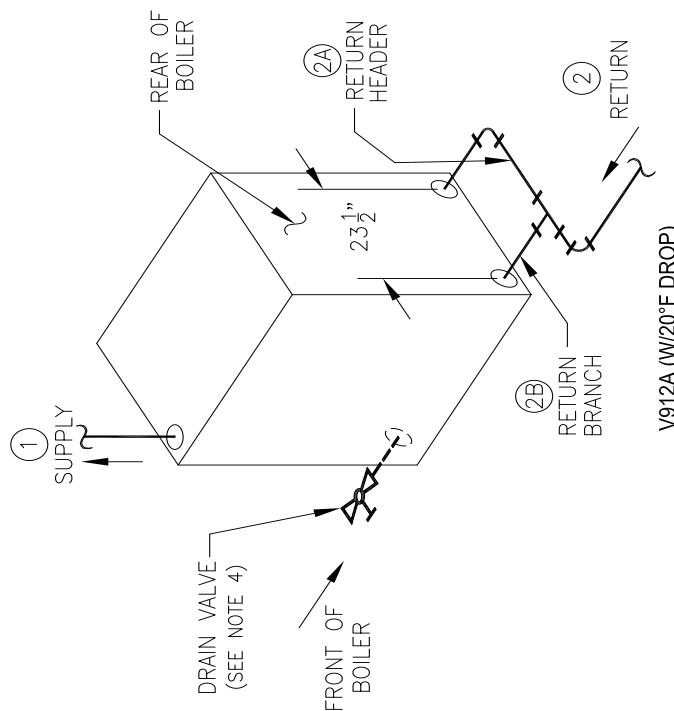

Figure 23: V9A Series Minimum Piping - Parallel - Water Boiler
- SUPPLY CONNECTIONS** - Removal of top jacket is not required to connect the supply riser(s), however one may find it easier. Refer to Figure 23 or 24 for water boilers and Figure 29 for steam boilers.
- RETURN CONNECTIONS** - The boiler is secured to the shipping skid with U bolts and 3" shipping nipples. Remove the bolts and nipples. Using 3" plugs and an appropriate pipe sealant, plug the unused return connections according to the minimum piping recommendations. Refer to Figure 23 or 24 for water boilers and Figure 29 for steam boilers.
Connect supply and return piping to heating system (see Figures 23 through 29). Flow direction for hot water boilers must be from the rear return out through the top front supply. Steam boilers can pipe return to the front as an alternate location. Some boiler sizes may require the use of additional supply and return tappings. Check Figure 21 and applicable piping diagram for the boiler size you are installing.
- i. If minimum return water temperature can be maintained at 135°F and temperature differential across the system is at 40°F or less, refer to Figure 23 or 24 for recommended minimum boiler piping details.